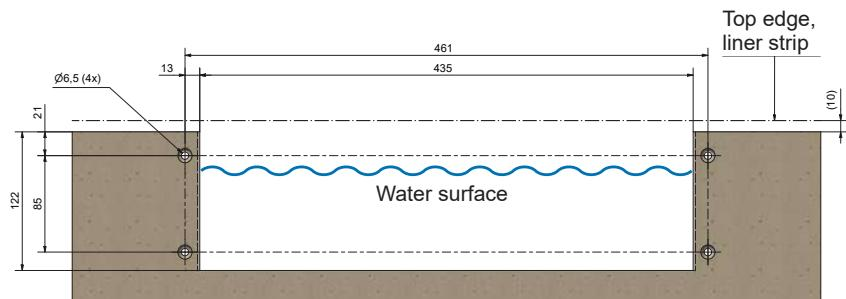

Figure 3.
1. Make a hole in the frame for the skimmer, dimensions and location as shown in Fig. 3.
4. The drainage pipe (14) is glued to the pipe muff (15) using a suitable PVC adhesive and fitted in the skimmer with the enclosed gasket and nipple (16). Connect pipe fittings to the overflow.
6. Install the flap gate (17) and check that it is correctly located and can move.
7. Attach the self-adhesive gasket (7) to the front edge of the skimmer (facing the pool).
10. Fit the outer gasket (9) and the mounting frame (10) - fasten first, then tighten crosswise.
11. Carefully cut the liner cleanly along the inside of the mounting frame (10).